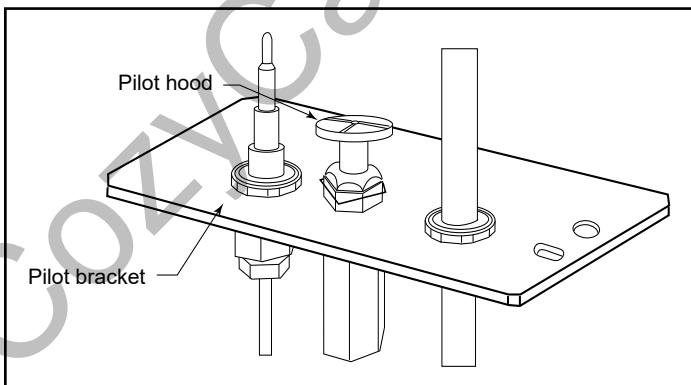

Figure 79 - Remove pilot hood.
- Remove pilot hood by lifting up. (Figure 79) Do not remove the snap ring to remove the pilot hood.